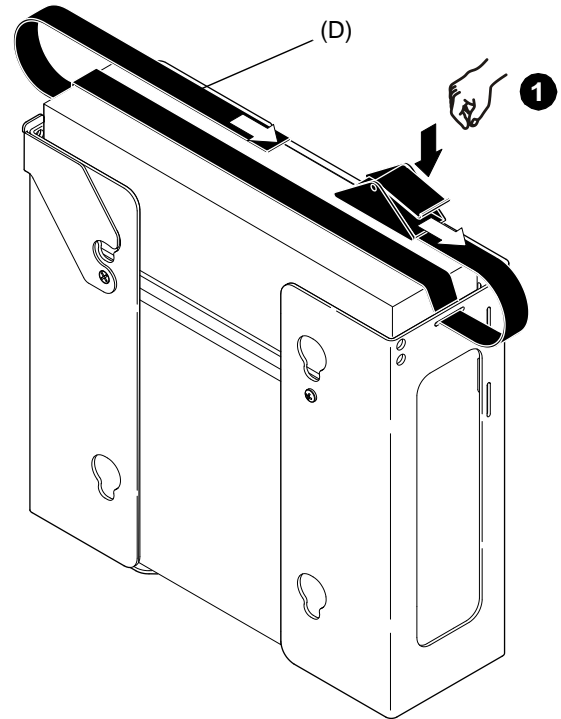

Figure 3
1. Install Strap as shown in figure 3 below and secure.